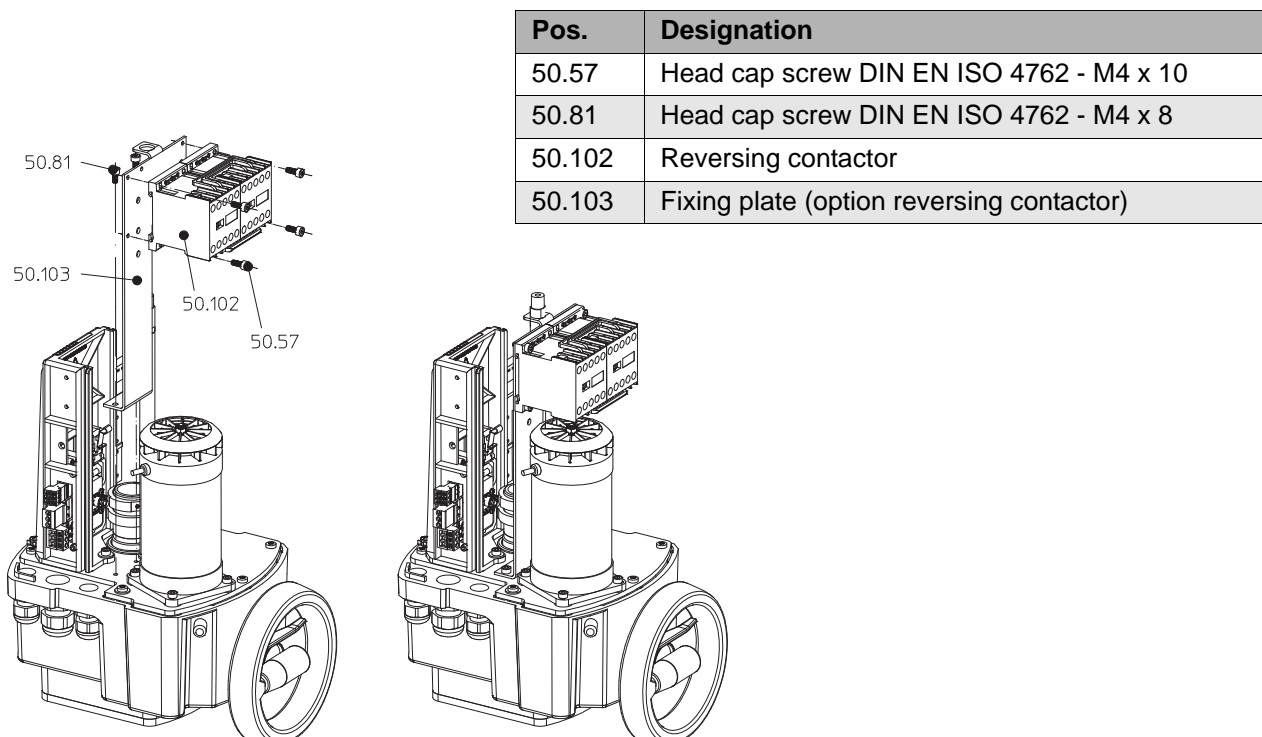

Fig. 21: Installation reversing contactor and phase control relay ARI-PREMIO® 12 - 15 kN
- Use the mounting kit to attach the reversing contactor to the gear plate (Fig. 21)